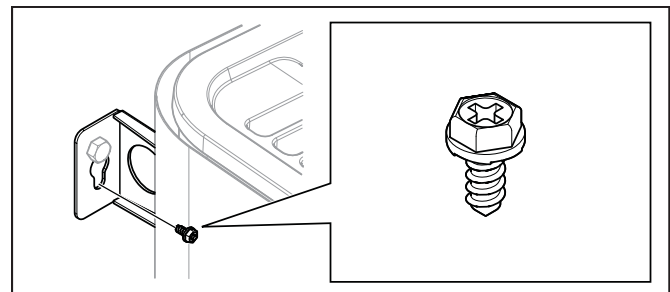

Figure 11: Lock screw for bracket
5. Lock the heater into place with the lock screw see Figure 11, Page 4.